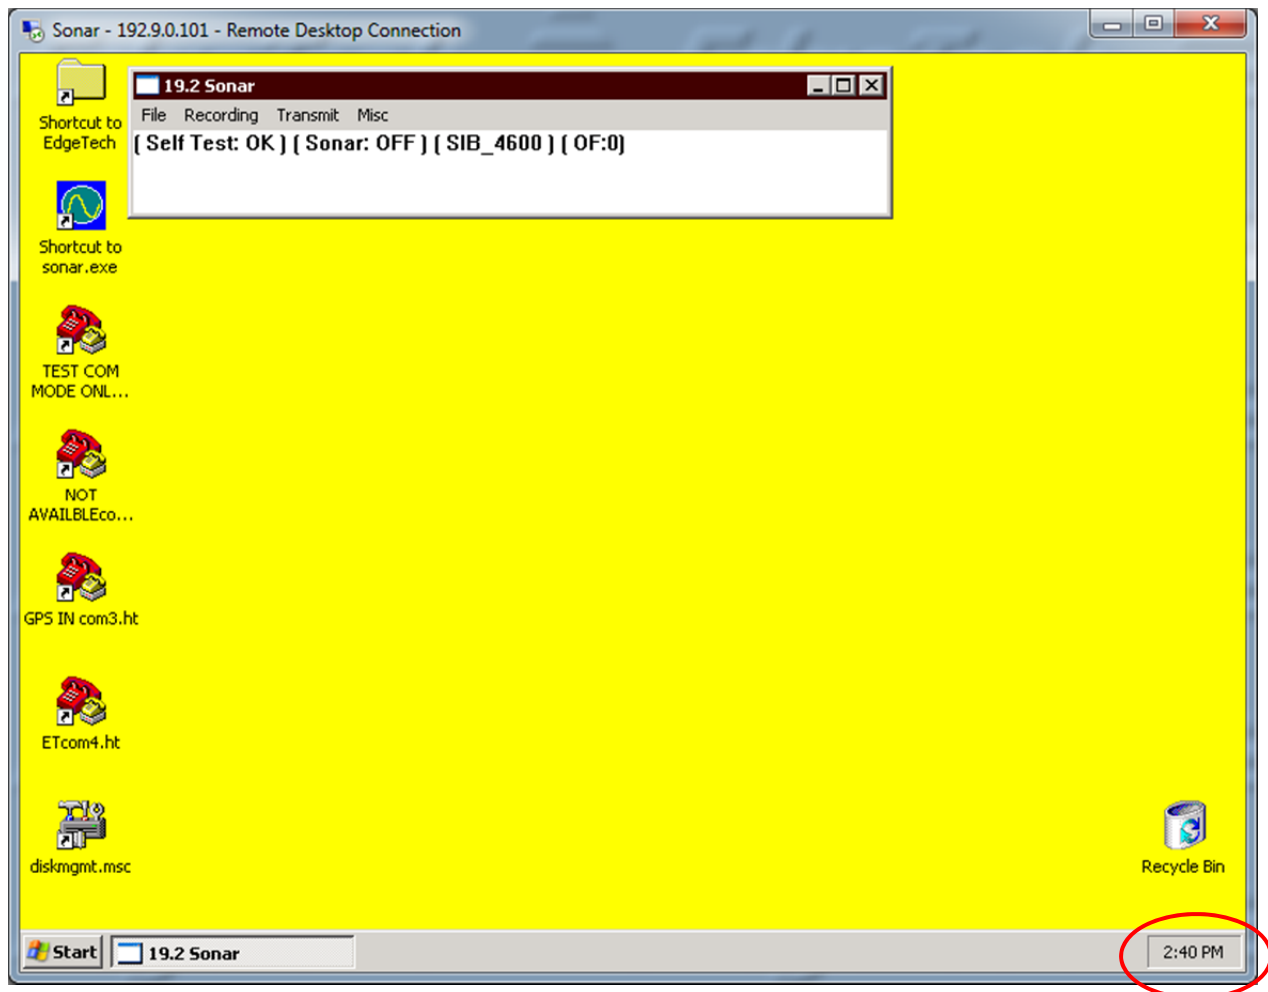

Figure 11: Sonar 192.9.0.101 Remote Desktop Connection Window
2. Check the clock time of the sonar (bottom right hand corner of Figure 11) with the clock time from the GPS and the Topside Processor. Ensure all three have the same time stamp.